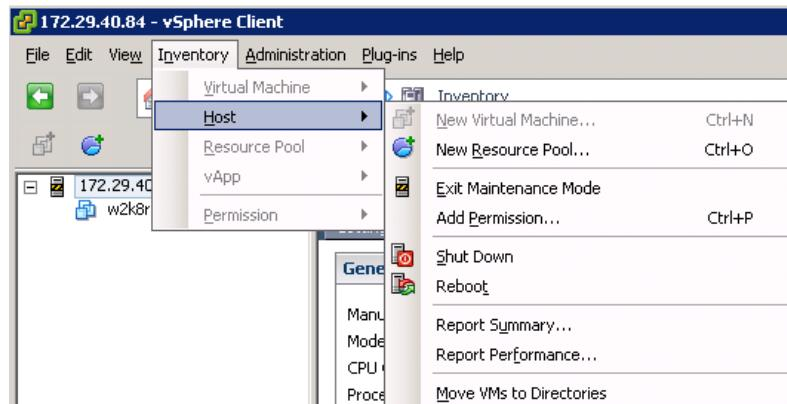

Figure 5-19. Exiting Maintenance Mode
1. Open vSphere and exit maintenance mode on the vSphere client (Figure 5-19).